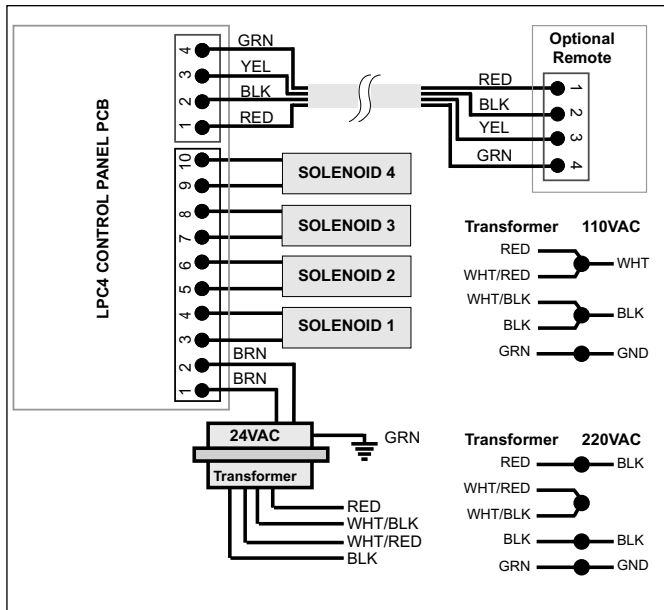

Figure 5. LPC4 Wiring Diagram
**NOTE** The control panel should be mounted vertically on a flat surface. Locate the control panel at least one (1) foot (305mm) above the ground and at least 5 feet away from a pool, spa or fountain. Ensure that the fiber optic and LPC4 control wiring is hardwired to the fiber optic light source, unless using an AquaLink RS control system. If using in an AquaLink RS control system, ensure the fiber optic and LPC4 control wiring is connected to the load side of an AUX relay in the Power Center.
- Open the cover to the box of the control panel and remove the two (2) screws holding the control panel.
- Locate the three (3) mounting holes available on the control panel. Mount the control panel to a vertical surface.
- On the lower right-hand side of the control panel, locate the green ground wire. Connect the ground wire securely to incoming ground on the transformer using the provided wire nut. Refer to the wiring diagram in Figure 5.
- Connect the input power source, either 110VAC or 220VAC, using the wiring diagram in Figure 5 as a reference.
2. Connect the wires of each solenoid into the green 10-pin terminal bar. Refer to Figure 5 for the connection location for each solenoid wire.
3. If using the LPC4 Remote or a Jandy AquaLink RS control panel, connect the 4-conductor wire to the red terminal bar in the control panel. Refer to Figure 5 for the connection location for each wire. Tighten the terminal screws firmly.
1. Remove the four (4) screws located under the spring-loaded cover on the remote panel. Remove the cover and set aside.
2. Locate the four (4) mounting holes available on the remote panel. Mount the remote panel to a vertical surface.
5. On the remote panel PCB, locate the red, 4-pin terminal bar. Connect the 4-conductor wire to the terminal bar on the remote panel (see Figure 5, page 7). Tighten the terminal screws firmly.
6. Install the remote panel cover using the four (4) screws removed in *Step 1*.